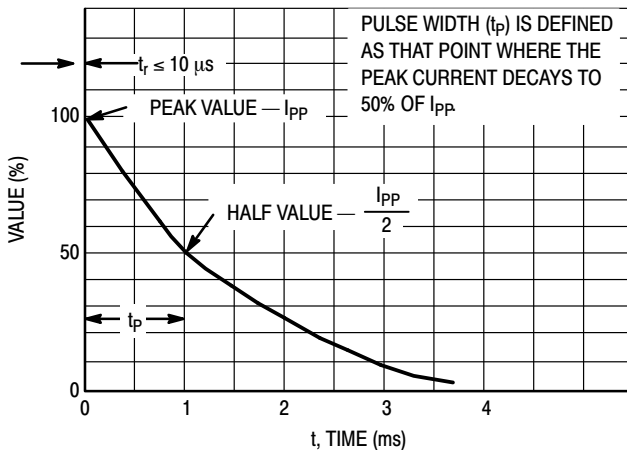
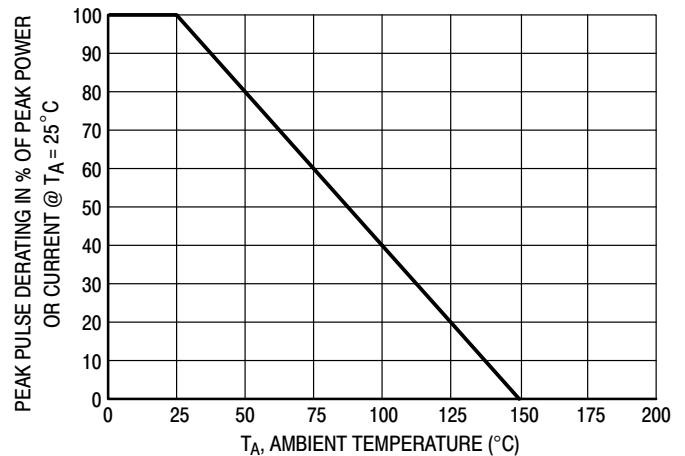

Figure 5. Pulse Waveform
Figure 6. Pulse Derating Curve
- Peak Power – 40 W @ 1.0 ms (Bidirectional), per Figure 5 Waveform
1. Nonrepetitive current pulse per Figure 5 and derate above $T_A = 25^\circ\text{C}$ per Figure 6.
6. Surge current waveform per Figure 5 and derate per Figure 6
Figure is the recommended solution for transient EMI/ESD protection. This circuit is shown in the Society of Automotive Engineers February, 2000 J2411 “Single Wire CAN Network for Vehicle Applications” specification (Figure 6). Note: the dual common anode zener configuration shown above is electrically equivalent to a dual common cathode zener configuration.